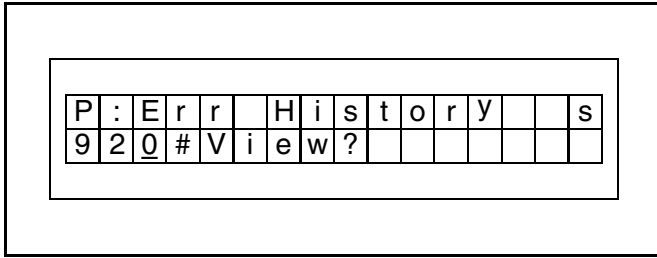

Figure 31
3. Press the enter (●) key one time to access P.920 and view the log. (See Figure 31.)